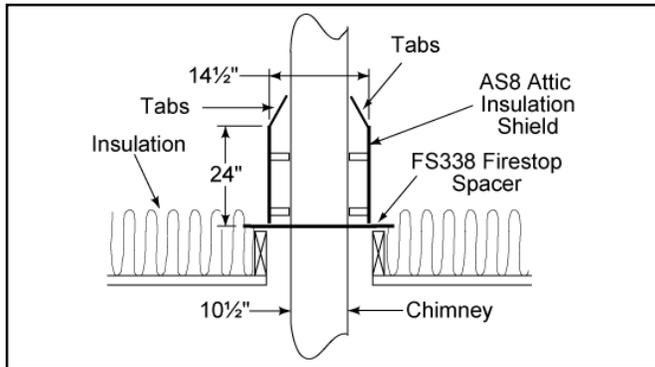

Figure 14
- Position the shield over the vertical chimney section where it penetrates a firestop spacer. The FS338 will support the AS8. See Figure 14, page 17.
- Slide the shield down until it rests on the firestop spacer. The firestop spacer will support the insulation shield. See Figure 14.